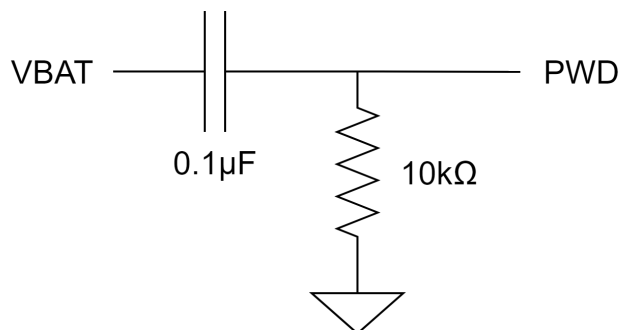

Figure 1 - Circuit to generate PWD Pulse
- Figure 1 - Circuit to generate PWD Pulse
- For applications where VBAT can be disconnected or experience large voltage fluctuations for short periods, a PWD circuit (such as what is shown in Figure 1) is